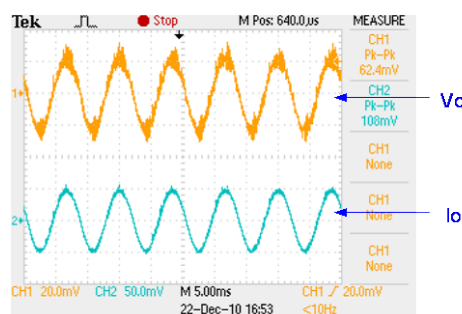

Fig 5-9 LED Driver ripple
- 1.2 Figure 5-9 show LED driver constant current output I_o has a current ripple, the Voltage across of LED also got a $I_o \cdot R_d$ voltage ripple (Normally is a high frequency Triangle waveform).